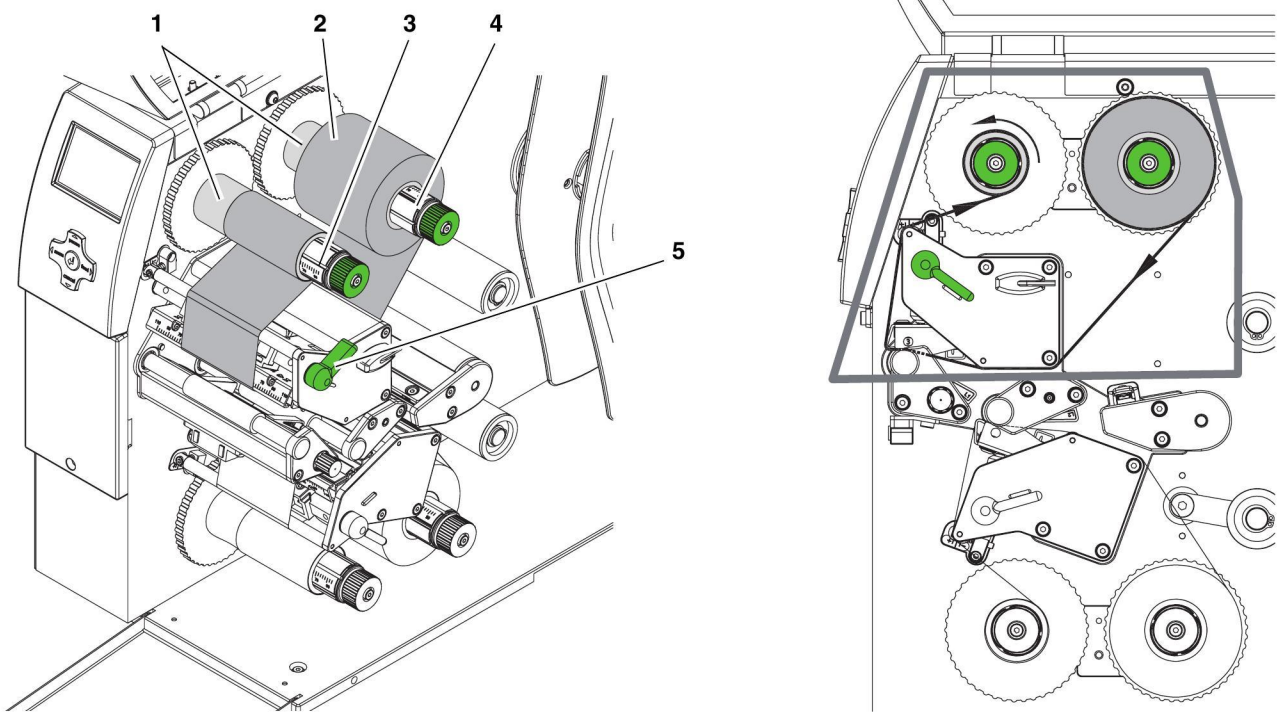

Figure 2-4 Upper feed path of the ink ribbon
- Guide ink ribbon through the print unit as shown in Figure 2-4.
- Secure the starting end of the ink ribbon to the ink ribbon core on the take-up hub (3) with adhesive tape. Ensure counter clockwise direction of the take-up hub here.
- Turn take-up hub (3) counter clockwise to smooth out the feed path of the ink ribbon.